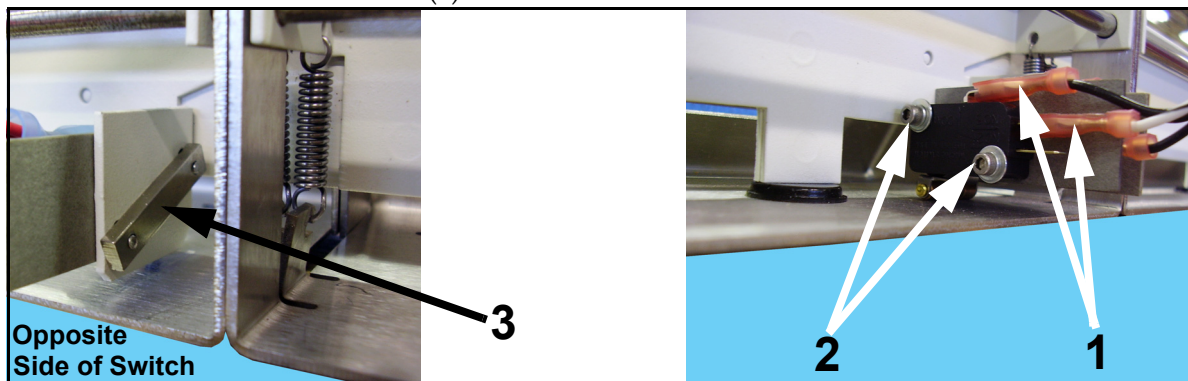

Figure 6-10. Treadle Switch (Typical)
- 3 Disconnect the terminals (1 in Figure 6-10).
- 4 Unscrew the two mounting screws (2) and remove the switch and screw bar (3).